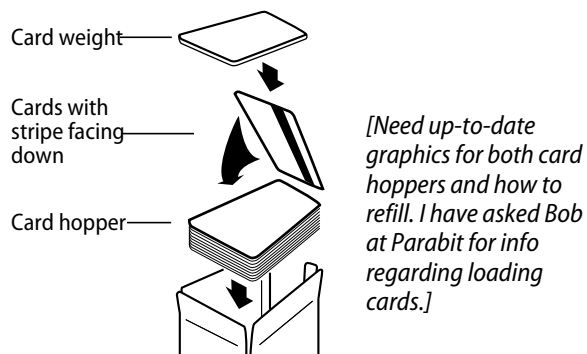

Figure 2 Loading magnetic stripe cards into the card hopper
- 1 Open the cabinet and load blank cards into the encoder hopper as shown on the label attached to the card hopper. See Figure 2.